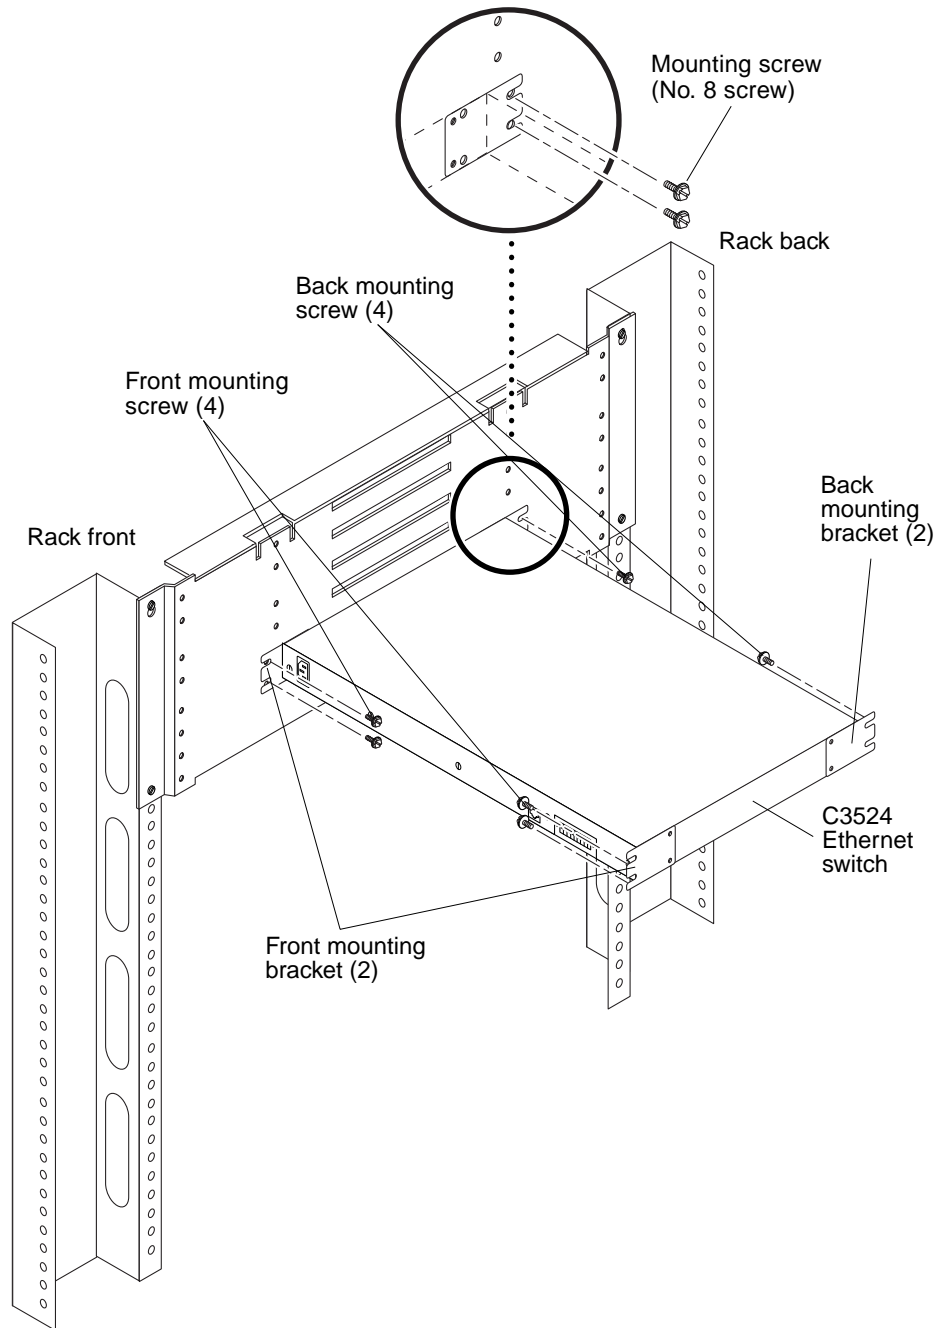

FIGURE 10 Removing and Replacing the C3524 Ethernet Switch
- b. **Using a No. 2 Phillips screwdriver, loosen the back mounting screws securing the Ethernet switch chassis to the mounting plate (FIGURE 10).**
- a. Using a No. 2 Phillips screwdriver, remove the front mounting screws securing the Ethernet switch chassis to the mounting plate (FIGURE 10).**
3. **From the front of the rack (FIGURE 10):**
4. **From the back of the rack (FIGURE 10):**